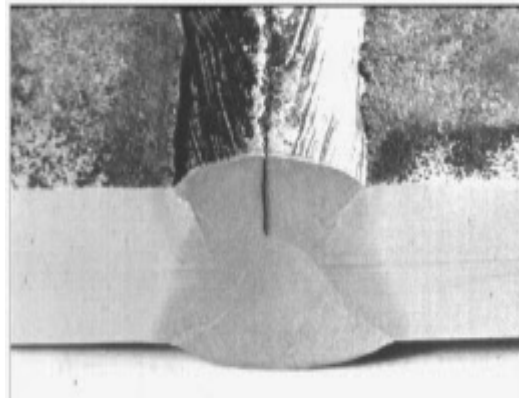

Figure 15. Picture of a Hot Crack (by Shikh Ahmad Hanif /
**Hot Cracks** are visible while the weld is still hot and normally will form towards the center of the weld (Figure 15). Hot cracks can be caused by a poor bond or fusion between the weld metal in the base which results when the crystal structures do not fully bond together. As the weld cools and shrinks it will rupture. Many times we will find an undersized weld or improperly shaped weld to be the culprit because there is not enough material to absorb the stresses from the shrinking.